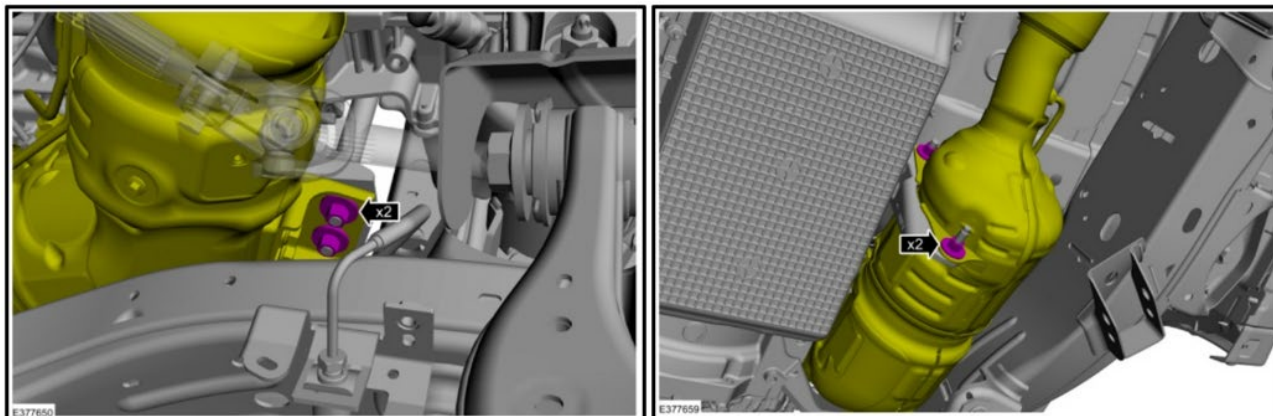

FIGURE 13
13. Position the DPF onto the DPF rear mounting bracket studs and finger tight the 4 DPF front and rear bracket nuts. Refer figure 13.